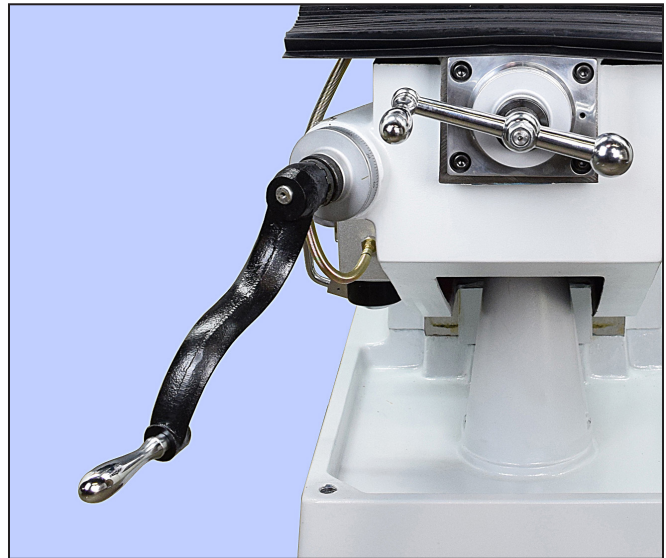

Figure 3-3 **Knee crank**
A micrometer collar graduated in 0.001" divisions allows the knee elevation to be accurately set when adjusted by hand, Figure 3-3.
1. Move the SPEED RANGE lever to the LO detent position, Figure 3-3. (LO = back gear IN). You may need to twist the spindle back and forth by hand for proper engagement.